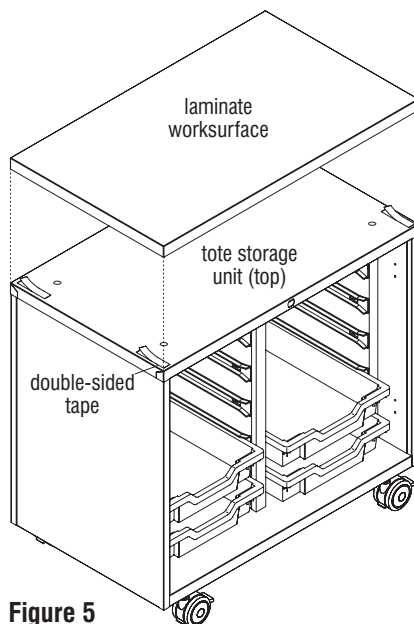

Figure 5
7. Remove the backing from the double-sided tape adhered to the storage unit top. Carefully center the laminate top over the storage unit such that the top is flush with the front, back and sides of the unit (Figure 5).